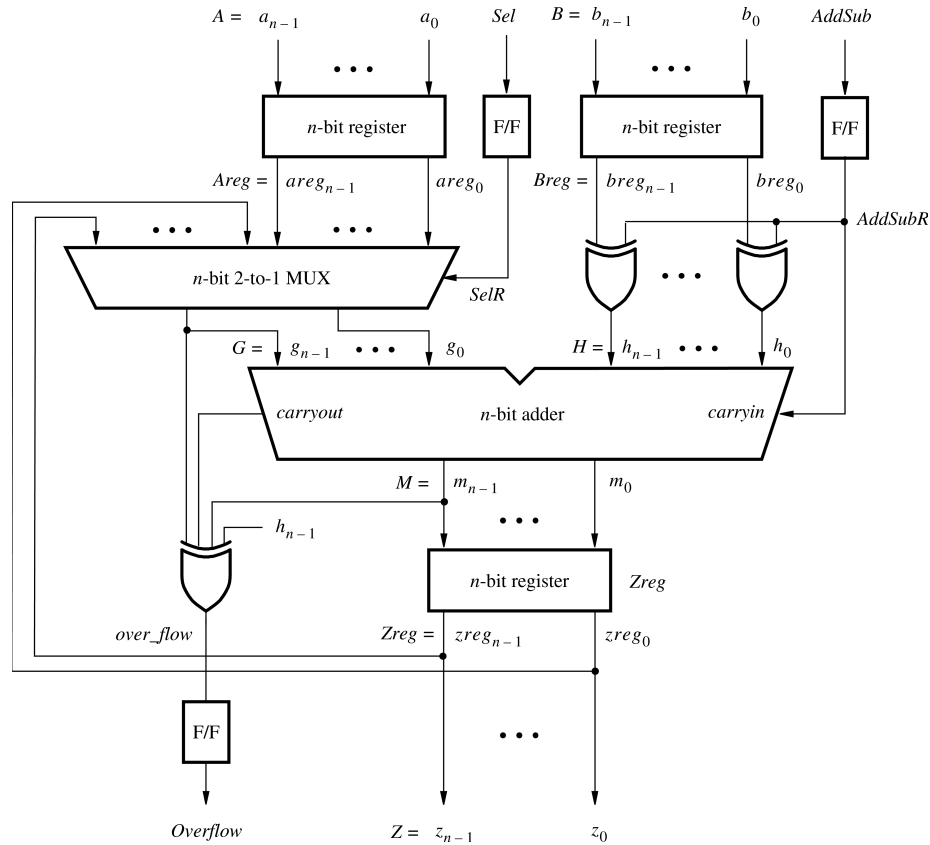
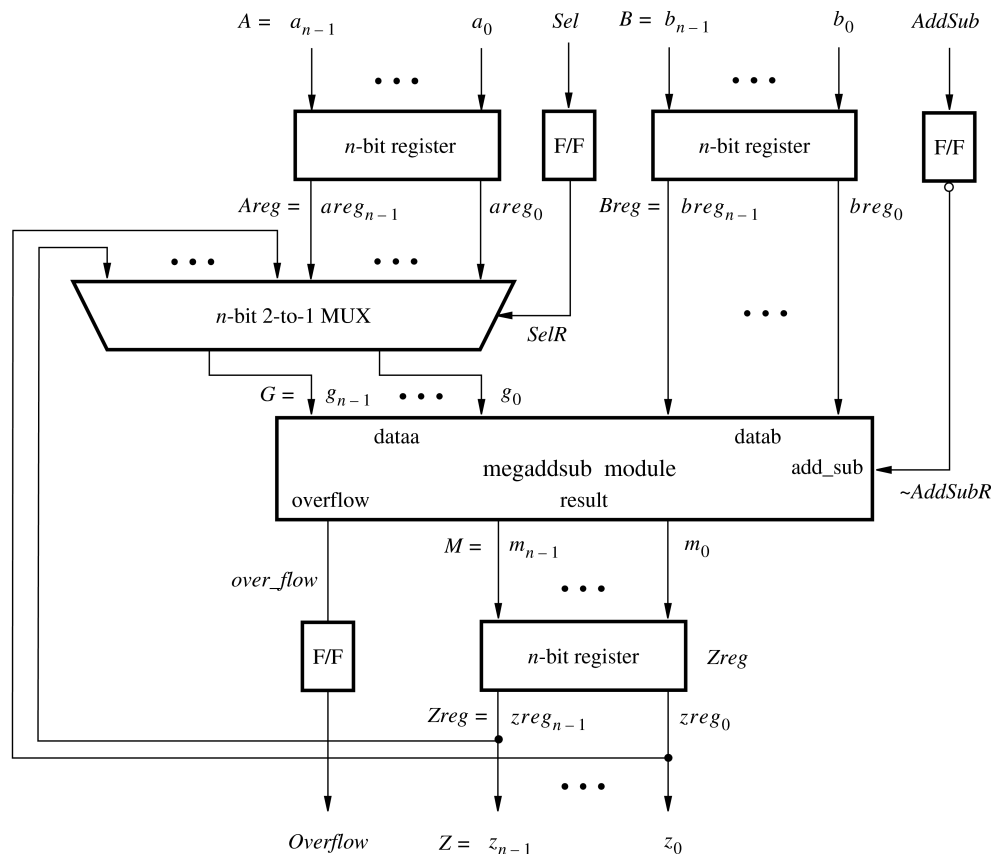
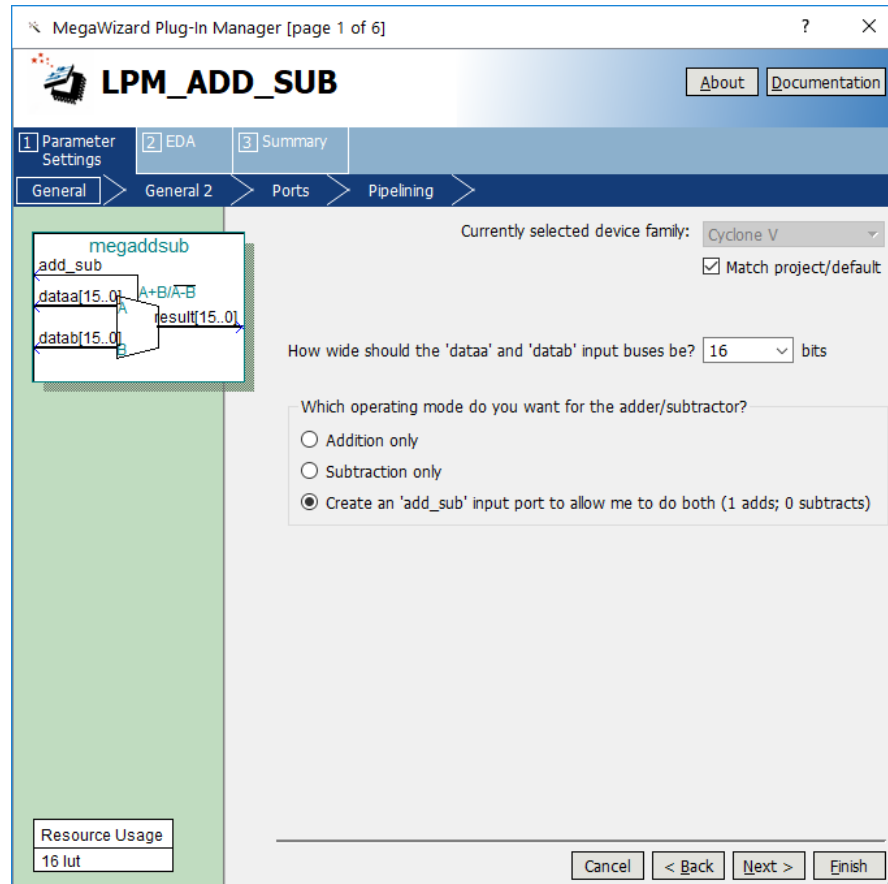

Figure 1. The adder/subtractor circuit.
Figure 3. The augmented adder/subtractor circuit.
Figure 6. Specify the size of data inputs.
As an example, we will use the adder/subtractor circuit shown in Figure 1. It can add, subtract, and accumulate  $n$ -bit numbers using the 2's complement number representation. The two primary inputs are numbers  $A = a_{n-1}a_{n-2}\cdots a_0$  and  $B = b_{n-1}b_{n-2}\cdots b_0$ , and the primary output is  $Z = z_{n-1}z_{n-2}\cdots z_0$ . Another input is the *AddSub* control signal which causes  $Z = A + B$  to be performed when *AddSub* = 0 and  $Z = A - B$  when *AddSub* = 1. A second control input, *Sel*, is used to select the accumulator mode of operation. If *Sel* = 0, the operation  $Z = A \pm B$  is performed, but if *Sel* = 1, then  $B$  is added to or subtracted from the current value of  $Z$ . If the addition or subtraction operations result in arithmetic overflow, an output signal, *Overflow*, is asserted.
The LPMs in the IP Catalog are general in structure and they can be configured to suit a specific application by specifying the values of various parameters. We will use the *lpm\_add\_sub* module to simplify our adder/subtractor circuit defined in Figures 1 and 2. The augmented circuit is given in Figure 3. The *lpm\_add\_sub* module, instantiated under the name *megaddsub*, replaces the adder circuit as well as the XOR gates that provide the input *H* to the adder. Since arithmetic overflow is one of the outputs that the LPM provides, it is not necessary to generate this output with a separate XOR gate.
4. In the box in Figure 6 specify that the width of the data inputs is 16 bits. Also, specify the operating mode in which one of the ports allows performing both addition and subtraction of the input operand, under the control of the *add\_sub* input. A symbol for the resulting LPM is shown in the top left corner. Note that if *add\_sub* = 1 then *result* = *A* + *B*; otherwise, *result* = *A* – *B*. This interpretation of the control input and the operation performed is different from our original design in Figures 1 and 2, which we have to account for in the modified design. Observe that we have included this change in the circuit in Figure 3. Click Next.
- The *adderk* entity, which specifies the adder circuit, is replaced by *megaddsub* entity. Note that the *dataa* and *datab* inputs shown in Figure 6 are driven by the *G* and *Breg* vectors, respectively.